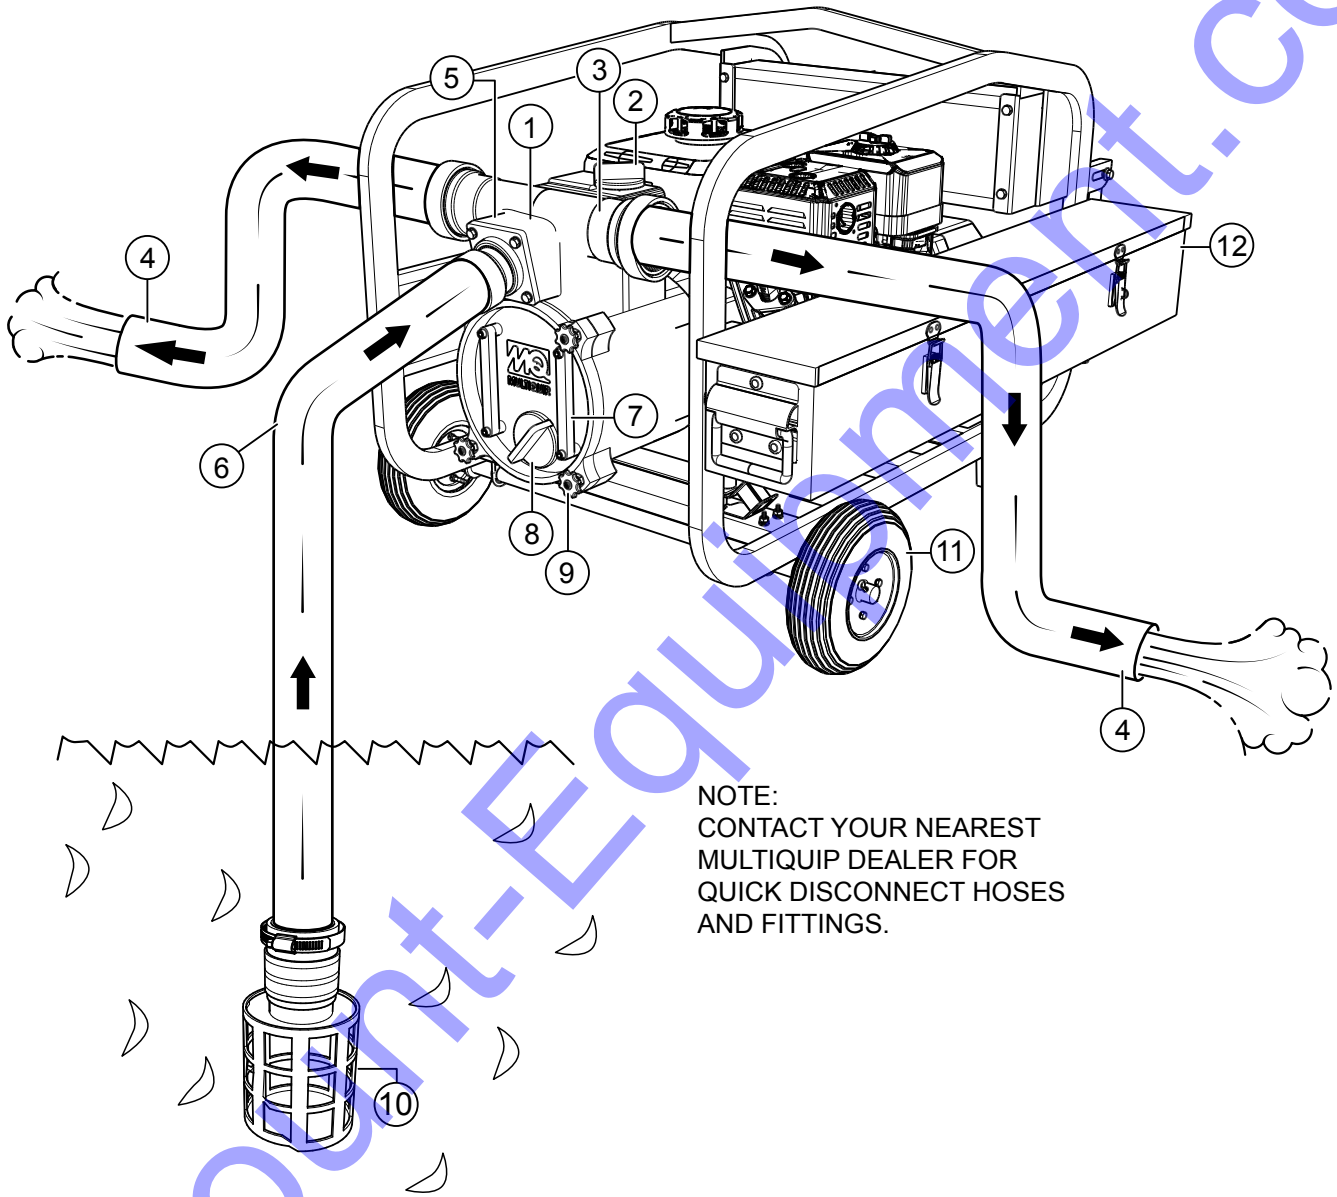

Figure 3. QP3Ti Key Components
Figure 3 shows key component areas of the QP3Ti.
3. Initially prime the pump by removing the fill cap (see Figure 3) and filling the casing with water. If the pump casing is not filled with water prior to operations, it will not be able to start the pumping process and you risk overheating the mechanical seal assembly.